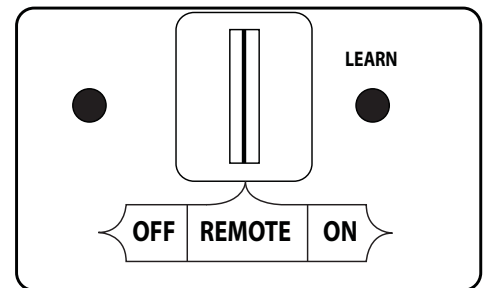
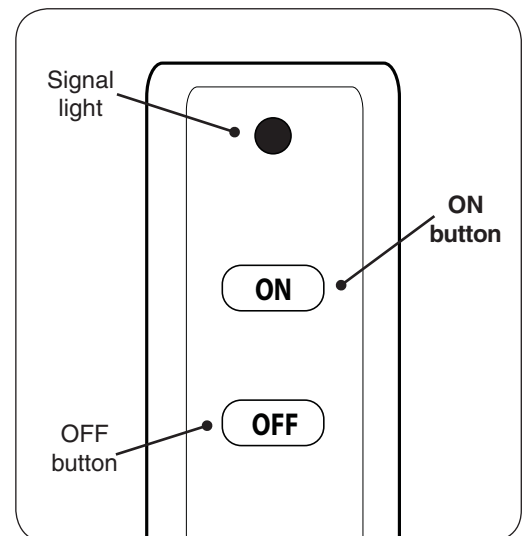

Fig. 29-1 Remote receiver detail (REMOTE)
Fig. 29-2 Remote transmitter detail
1. Locate the 3-position switch on the remote receiver (see Fig. 29-1), and slide the switch to the **REMOTE** position.
**Note:** Ensure that the ON/OFF switch at the front of the switch box is in the **OFF (O)** position.
2. Locate the remote transmitter and press the **ON** button (see Fig. 29-2). The ignition sequence will begin.